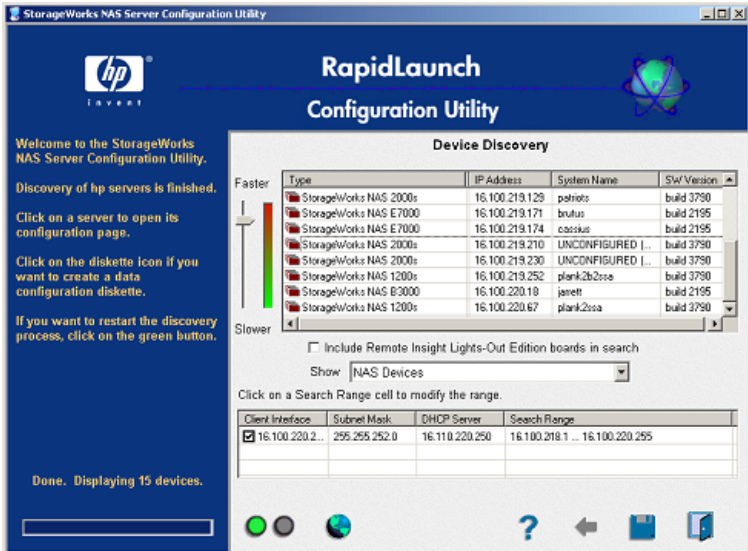

Figure 5: RapidLaunch device discovery screen
- All the NAS devices found on the network are displayed as shown in Figure 5. It may take several minutes for the NAS device to be found on the network.